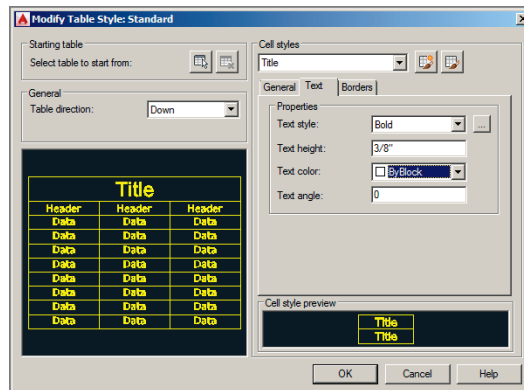

FIGURE 15.16 Editing the Title cell style text properties
3. Select the Text tab within the Modify Table Style: Standard dialog box. Open the Text Style drop-down menu, and select Bold. Double-click the Text Height text box, and type $\frac{3}{8}$ (or 0.80 cm) and press the Tab key (see Figure 15.16).